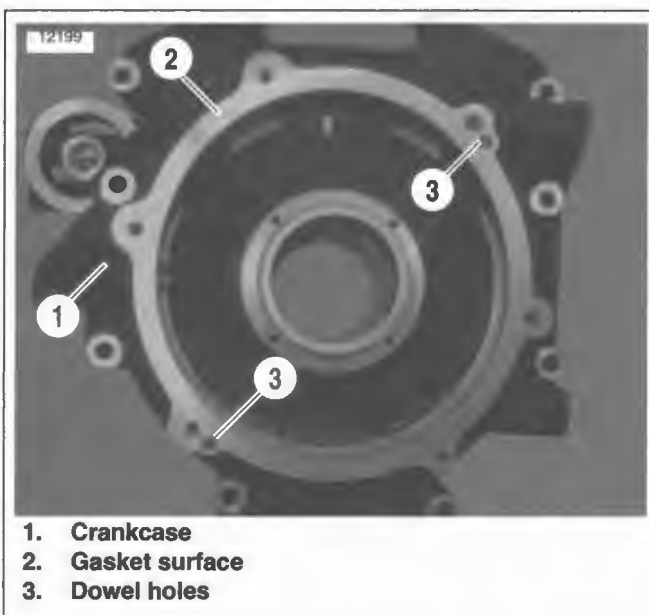

Figure 6-6. Crankcase
2. See Figure 6-6. Place crankcase gasket in place on gasket surface (2). Be sure dowels in gasket engage dowel holes (3).